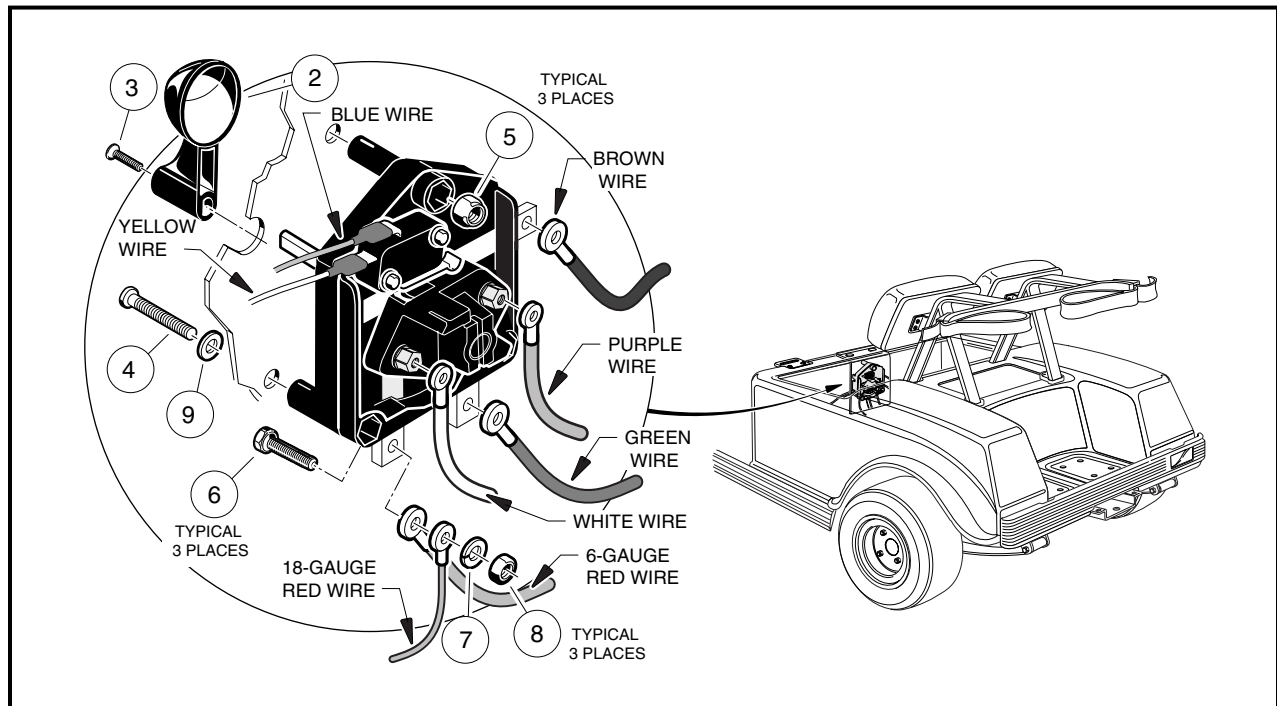

Figure 12-11 Forward/Reverse Switch
2. Remove Forward/Reverse handle mounting screw (3) and handle (2) (**Figure 12-11, Page 12-14**).
4. Remove the screws (4), washers (9) and nuts (5) that mount Forward/Reverse switch to the body (**Figure 12-11, Page 12-14**).
1. Connect the wires to the terminal lugs of the Forward/Reverse switch as shown (**Figure 12-11, Page 12-14**). Tighten the nuts to 45 in-lb (5.1 N·m). **See following NOTE.**
**NOTE:** Make sure the 6-gauge red and green wires are angled 45° toward the passenger side of the vehicle as shown (**Figure 12-11, Page 12-14**).
2. Secure the Forward/Reverse switch to rear body. Tighten hardware to 33 in-lb (3.3 N·m) (**Figure 12-11, Page 12-14**).
3. Connect the two 6-gauge wires to the movable contact on the back of the Forward/Reverse switch. Tighten bolts to 27 in-lb (3.0 N·m) (**Figure 12-11, Page 12-14**). **See following NOTE.**
5. Place handle (2) on Forward/Reverse switch. Tighten screw (3) to 14 in-lb (1.6 N·m) (**Figure 12-11, Page 12-14**).